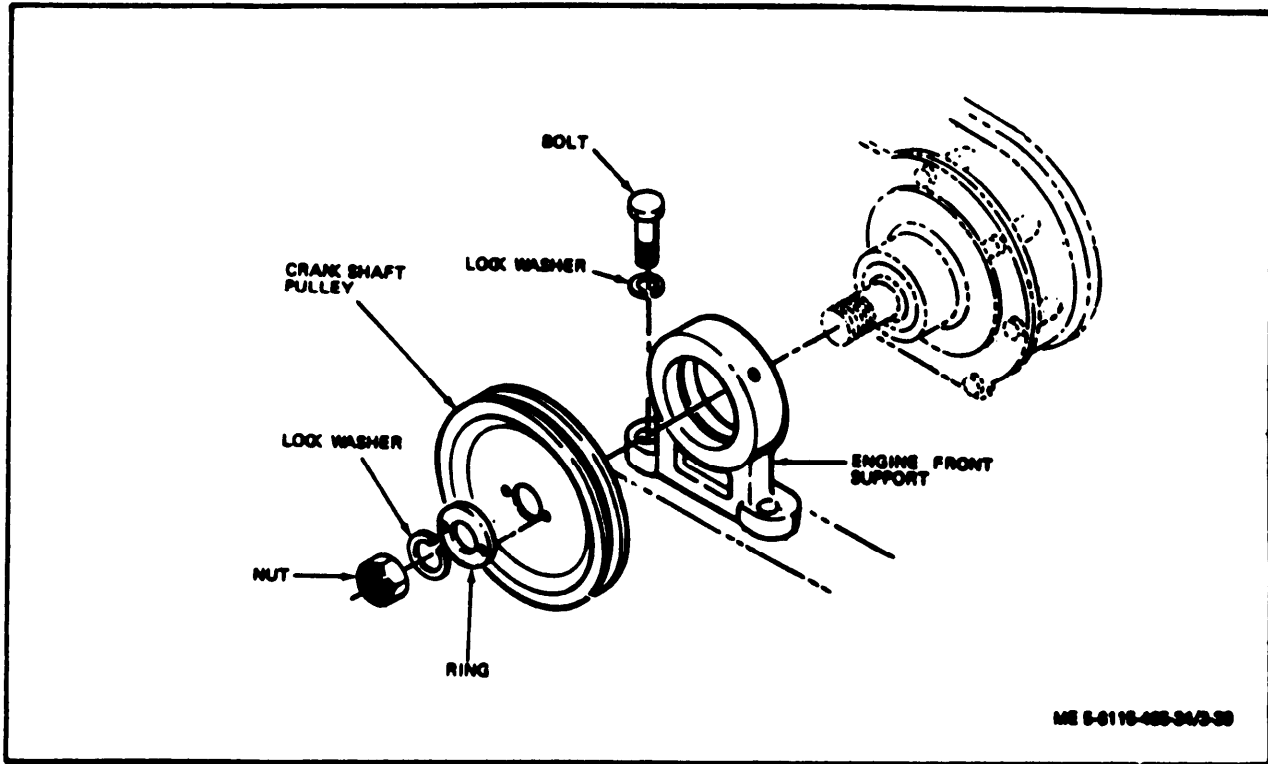

Figure 3-39. Engine Front Support, Removal and Installation.
(1) Remove nut, lockwasher, ring, and pulley (figure 3-39).
(2) Remove front engine support from crankshaft by removing bolt and lockwasher.